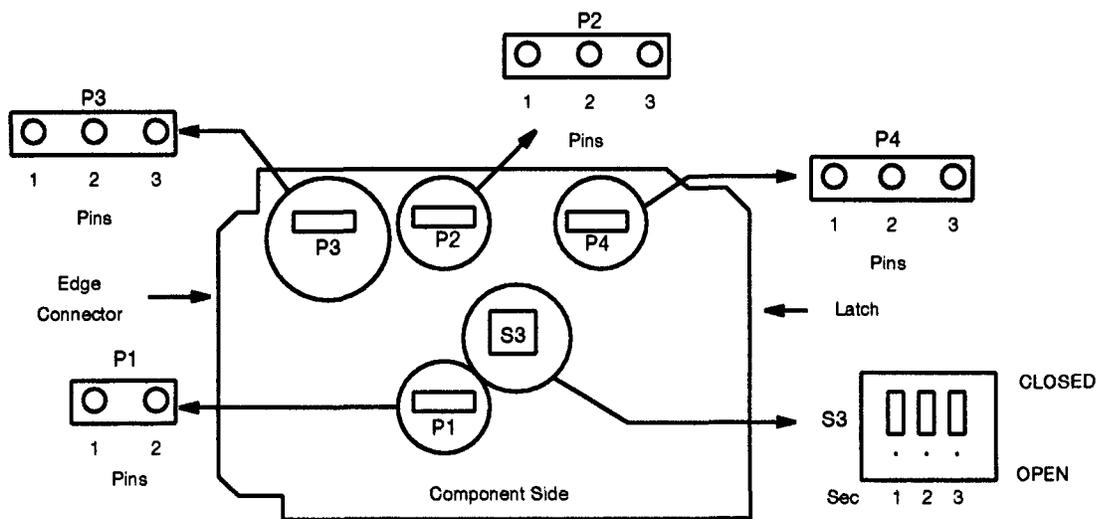

Figure 5. TLM2 (MC90191A1) Option Switches
51. Refer to **Figure 5** and set the address selection switches on the replacement **MC90191A1 TLM2**.
53. Refer to **Figure 5** and set **P2** and **P4** option plugs on the **MC90191A1 TLM2**.
Refer to **Figure 5**. Install jumper between pins 1 and 2 on **P1**. Install jumper between pins 1 and 2 on **P3**.